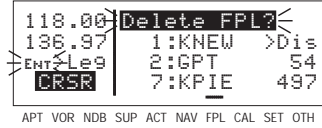

Figure 4-22
3. Press **CLR**. The words **Delete FPL?** will appear at the top of the page (figure 4-22). If a mistake was made and you do not wish to clear this flight plan, press **CLR** again.